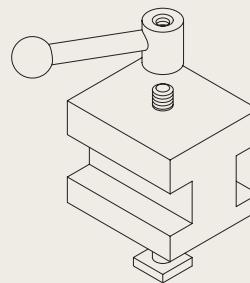
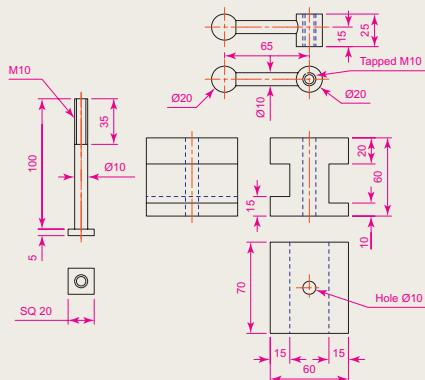

Fig. 7.26 Exercises 4 and 5 – orthographic projections of the three parts of the tool holder
Fig. 7.27 Exercises 4 and 5 – orthographic drawing of the tool holder on which the two exercises are based
- Construct a three-view orthographic projection in an angle of your own choice of the tool holder assembled as shown in the isometric drawing Fig. 7.26. Details are given in Fig. 7.27.
5. Construct an isometric drawing of the body of the tool holder shown in Figures 7.26 and 7.27.